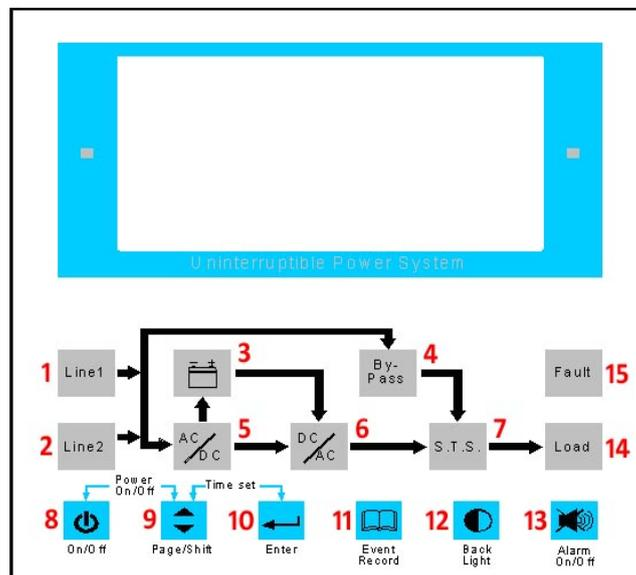

Figure 3 : Front Panel
3. Then press 「8. On/Off」 and 「9. Page/Shift」 buttons (see Figure 3) together and release after you hear a beep to turn on the UPS.
4. If the UPS is fault, 「15. Fault」 indicator (see Figure 3) will light and alarm continuously. Please immediately contact the dealer from whom you purchased the UPS.
5. If the UPS is normal, then press 「8. On/Off」 and 「9. Page/Shift」 buttons (see Figure 3) together and release after you hear a beep to turn OFF the UPS.